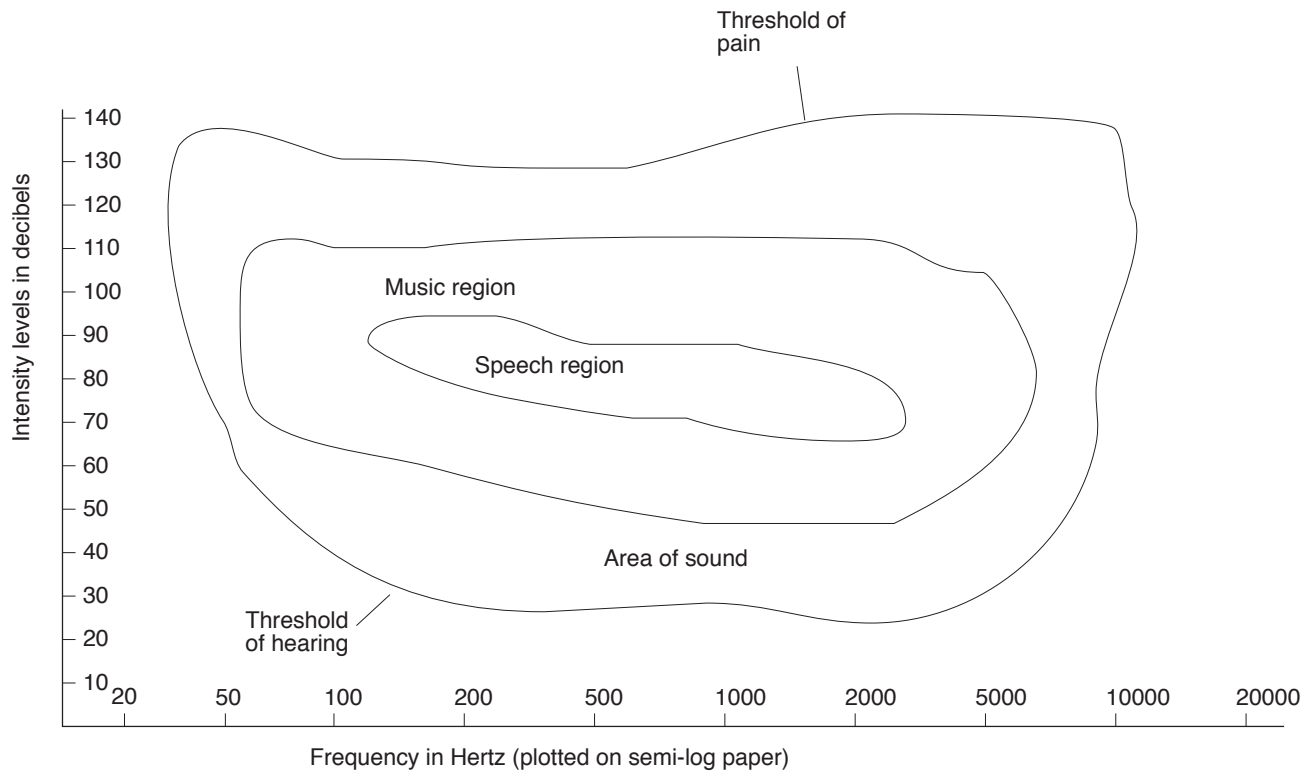

Figure 128.2 Graph for Question 3
- Refers to Figure 128.2. You also need to know that a ten decibel (1 bel) sound delivers ten times as much energy as a zero decibel sound, while a sound of 20 decibels (2bel) delivers 100 times as much energy.